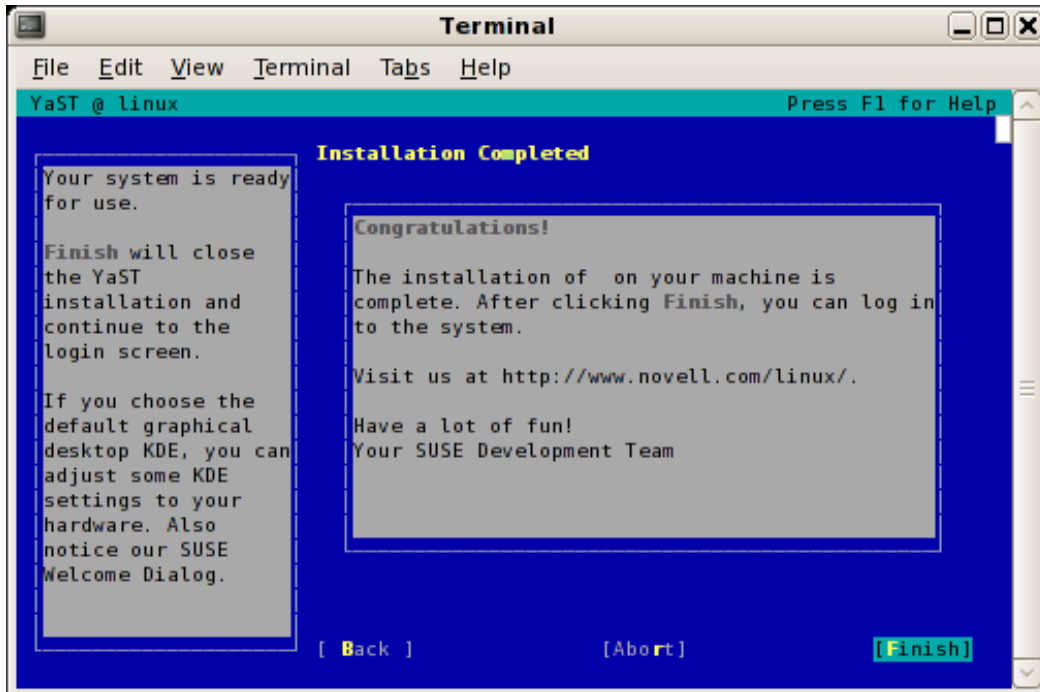

Figure 2-8 Installation Completed Screen
18. An **Installation Completed** screen appears, as show in Figure 2-8 on page 36. Click on the **Finish** button.